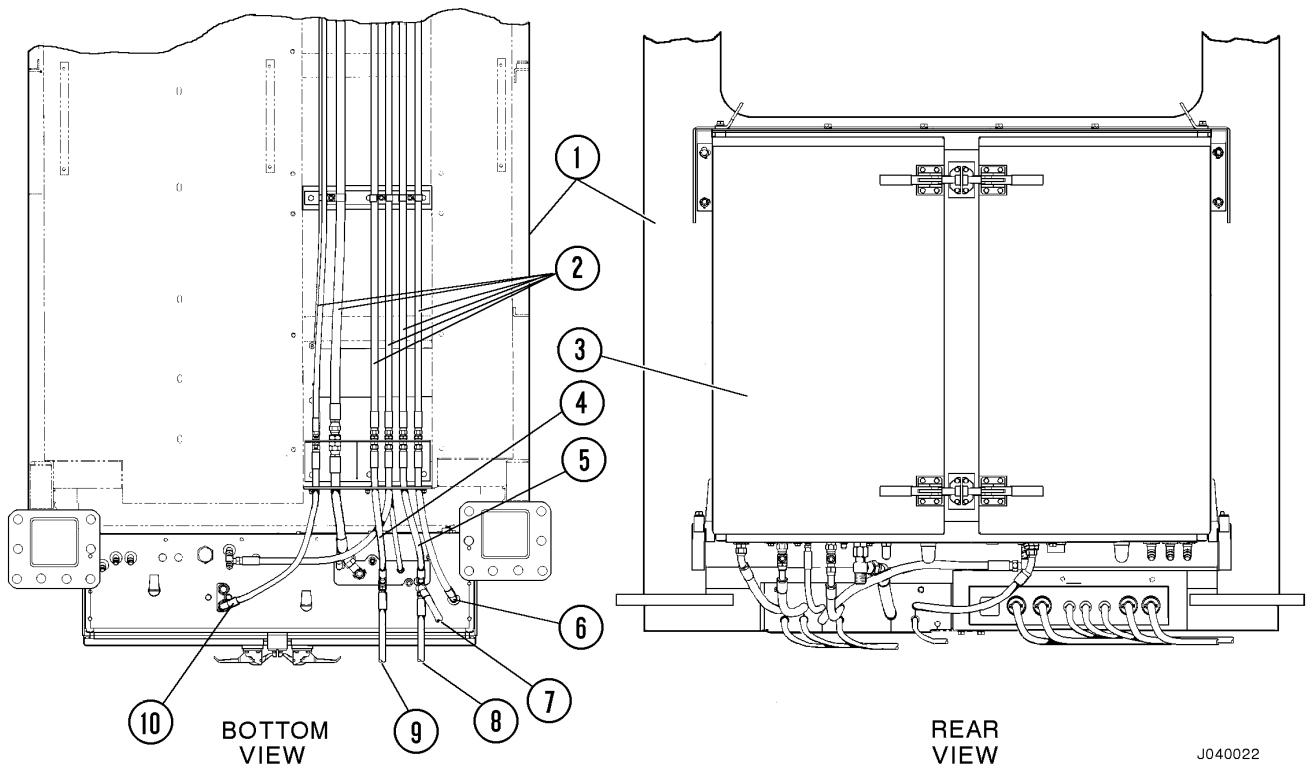

FIGURE 4-4. HYDRAULIC COMPONENTS CABINET
48. Reconnect hose (4, Figure 4-4) to Tee at "AF1" port, bottom of hydraulic cabinet